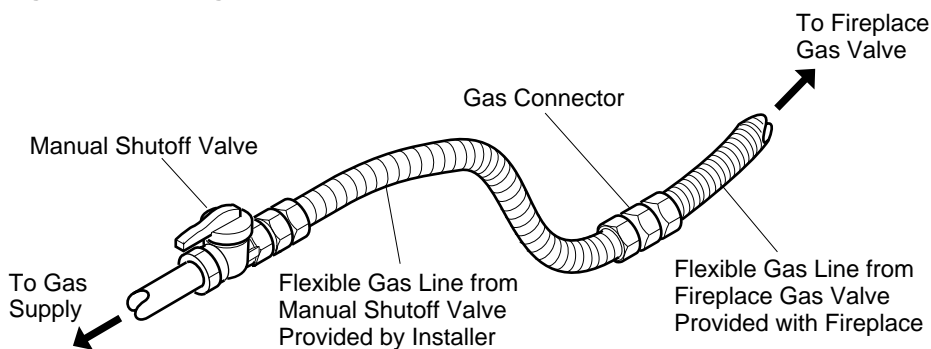

Figure 23 - Attaching Flexible Gas Lines Together
NOTICE: Most building codes do not permit concealed gas connections. A flexible gas line is provided to allow accessibility from the fireplace (see Figure 23). The flexible gas supply line connection to the manual shutoff valve should be accessible.
2. Apply pipe joint sealant lightly to male threads of gas connector attached to flexible gas line (see Figure 23). Connect flexible gas line to flexible gas line attached to gas valve of fireplace (see Figure 23).
4. Check all joints from manual shutoff valve to thermostat gas valve (see Figure 23, page 13). Apply mixture of liquid soap and water to gas joints. Bubbles forming show a leak.